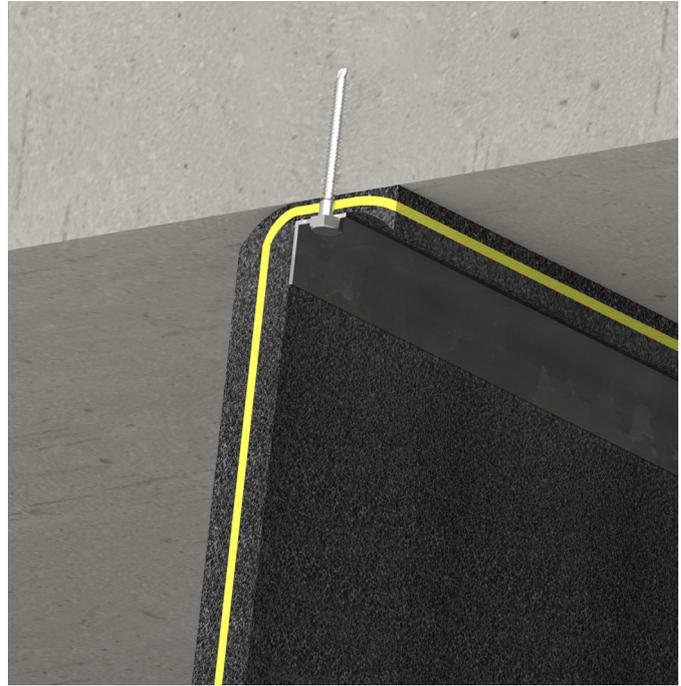

Fig 2. Head Fixing
**Head fixing:** The sheet is continuously secured and supported by clamping the product between the soffit and a mild steel angle section. Mechanical fixings should be selected with reference to the background material. See Fig 2.